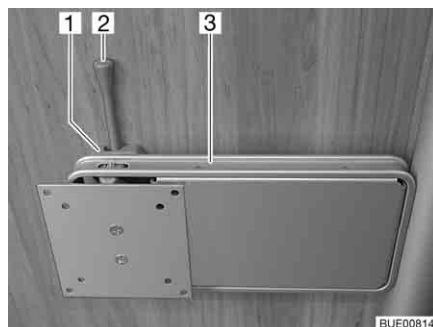

Fig. 65 Holder on the column
- Push the release lever (Fig. 65,2) to the side and turn the holder (Fig. 65,3) with the flat screen to the desired position.
- Turn the flat screen back until the holder (Fig. 65,3) engages in the lock (Fig. 65,1).